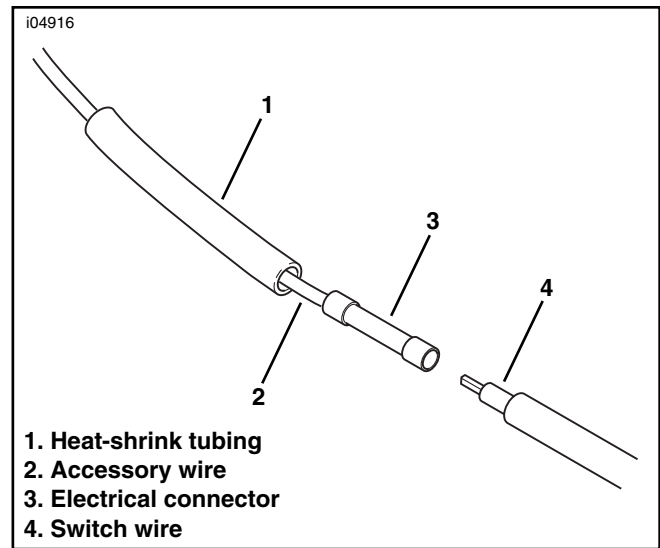

Figure 8. Connect the Rocker Switch Wires to the Accessory Wires
- See Figure 8. Slide the heat-shrink tubing (1) over the accessory wire (2), and crimp the electrical connector (3) to the wire using an HD 38125-8 Crimping Tool.
- See Figure 8. Insert the end of the switch wire (4) into the electrical connector (3), and crimp the wire to the electrical connector (3) using an HD 38125-8 Crimping Tool.
- See Figure 8. Slide heat-shrink tubing (1) away from the splice and, using the UltraTorch UT-100 (HD 39969), Robinair Heat Gun (HD 25070) with Heatshrink Attachment (HD 41183), or radiant heating device, heat the crimped electrical connector (3). Apply heat from the center of the crimp out to each end until the meltable sealant exudes out of both ends of the connector. Let the connector cool.
- See Figure 8. Slide heat-shrink tubing (1) over the splice and, using the UltraTorch UT-100 (HD 39969), Robinair Heat Gun (HD 25070) with Heatshrink Attachment (HD 41183), or radiant heating device, heat the heat-shrink tubing to encapsulate the electrical connector. Apply heat from the center of the crimp out to each end.